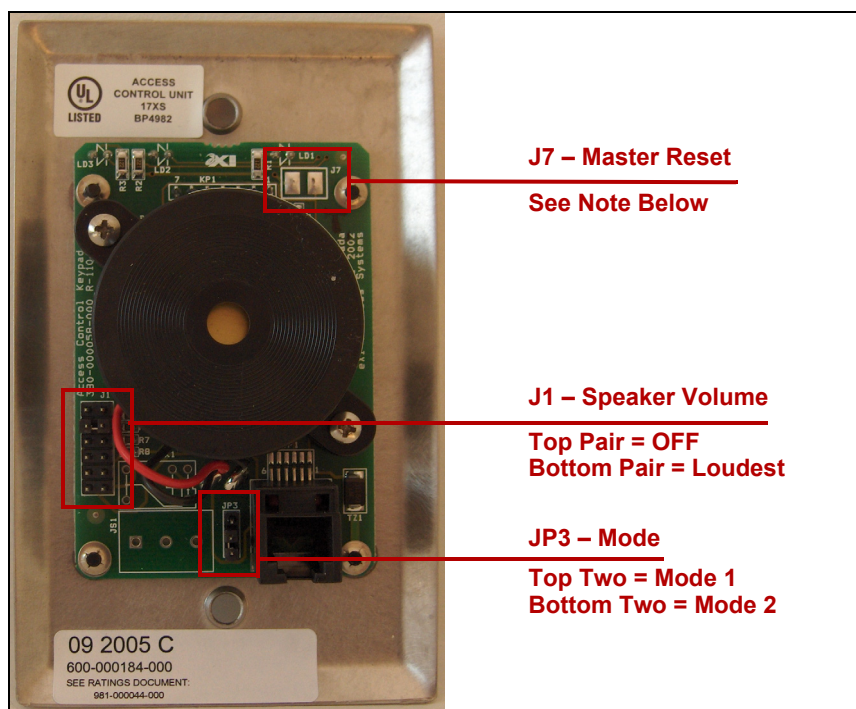

Figure 3-7: Keypad Jumper Locations
- 1** Place the jumper on the upper 2 pins of **JP3** on the keypad back to select Mode 1 (unique PIN codes) or place the jumper on the lower two pins to select Mode 2 (generic codes). If this is to be a Mode 2 keypad, continue with “Mode 2 Passcode Programming Procedure” on page 3-18 after completing keypad installation. See Figure 3-7 on page 3-19.
- 2** Set the appropriate volume level on **J1** on the keypad back. Place the jumper on the top pair of pins to set the volume to inaudible (off). Each lower pair of pins increases the volume, with the bottom pair being the loudest. See Figure 3-7 on page 3-19.